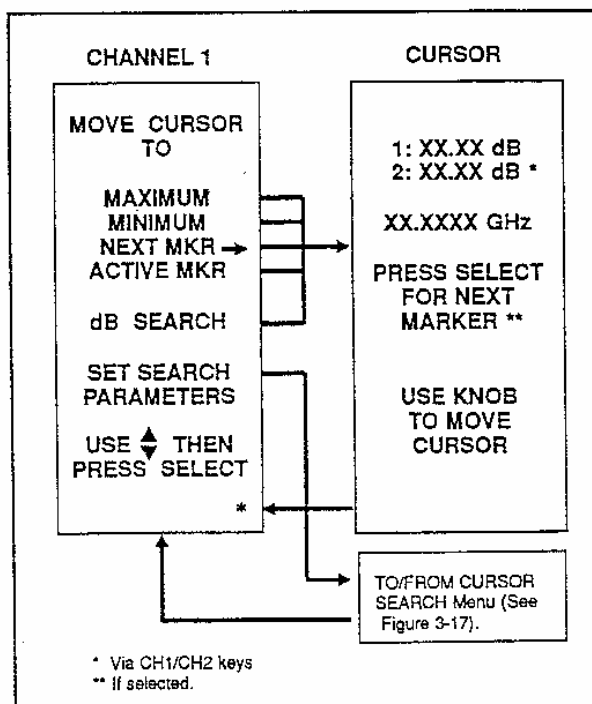

Figure 3-16. CURSOR MEASUREMENTS Menu (with RELATIVE CURSOR off)
c. CURSOR MEASUREMENTS Key (Figures 3-16 and 3-17)